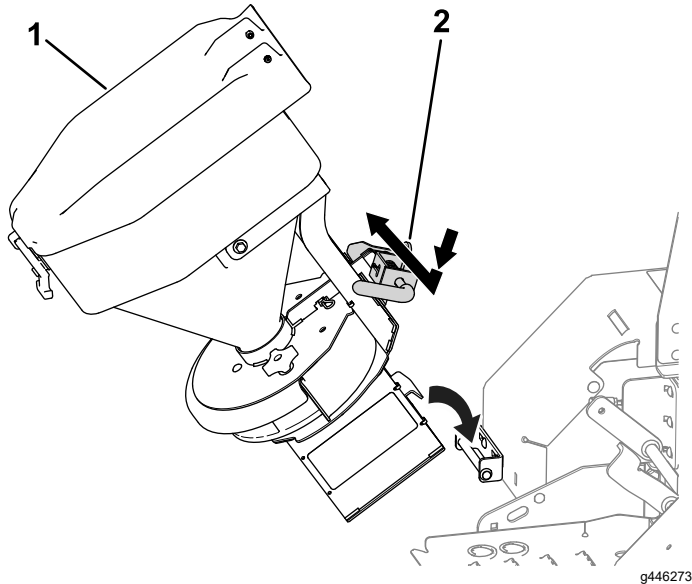

Figure 8
- Attach the mounting bracket assembly to the spreader by opening and then securing the latch pin. Place the spreader mounting flange on the mounting bar (Figure 8).